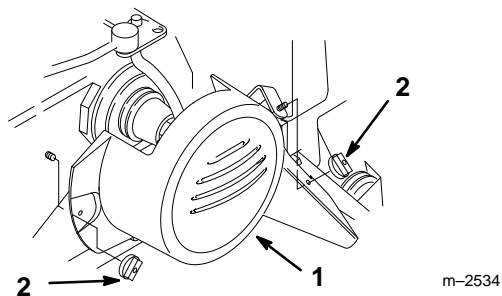

Figure 28
1. Remove the two wing nuts and belt cover from the tractor (Fig. 28).